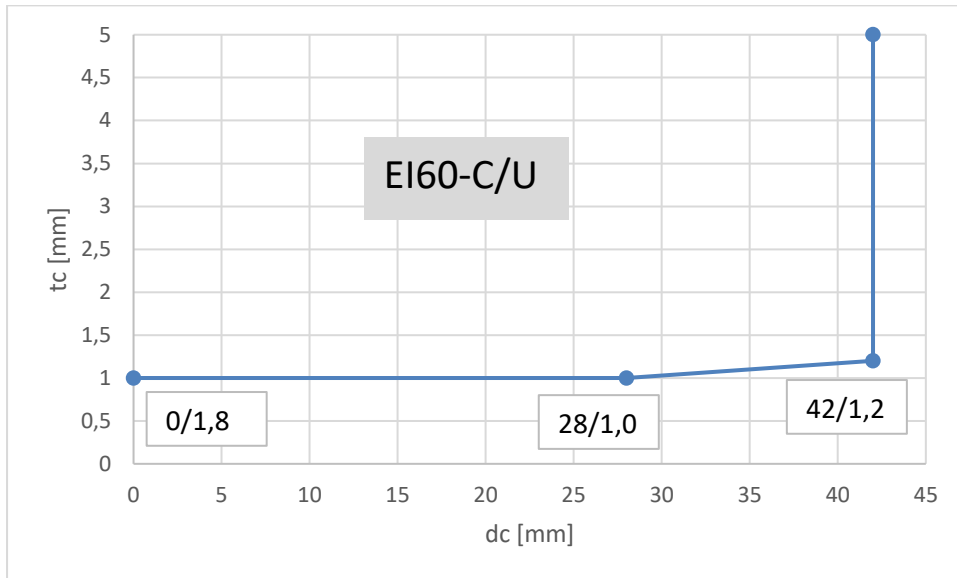

Figure 113: Classified range for metal pipes, FEF insulated, penetrating CFS-CT HDB, sealed with CFS-IS
Classification shown in Figure 113 is valid for:
- Dimension: refer to Figure 113